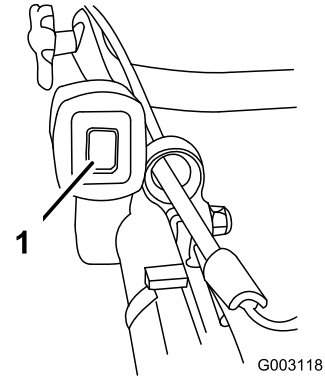

Figure 14
1. Push the ignition toggle switch to the On ("I") position (Figure 14).